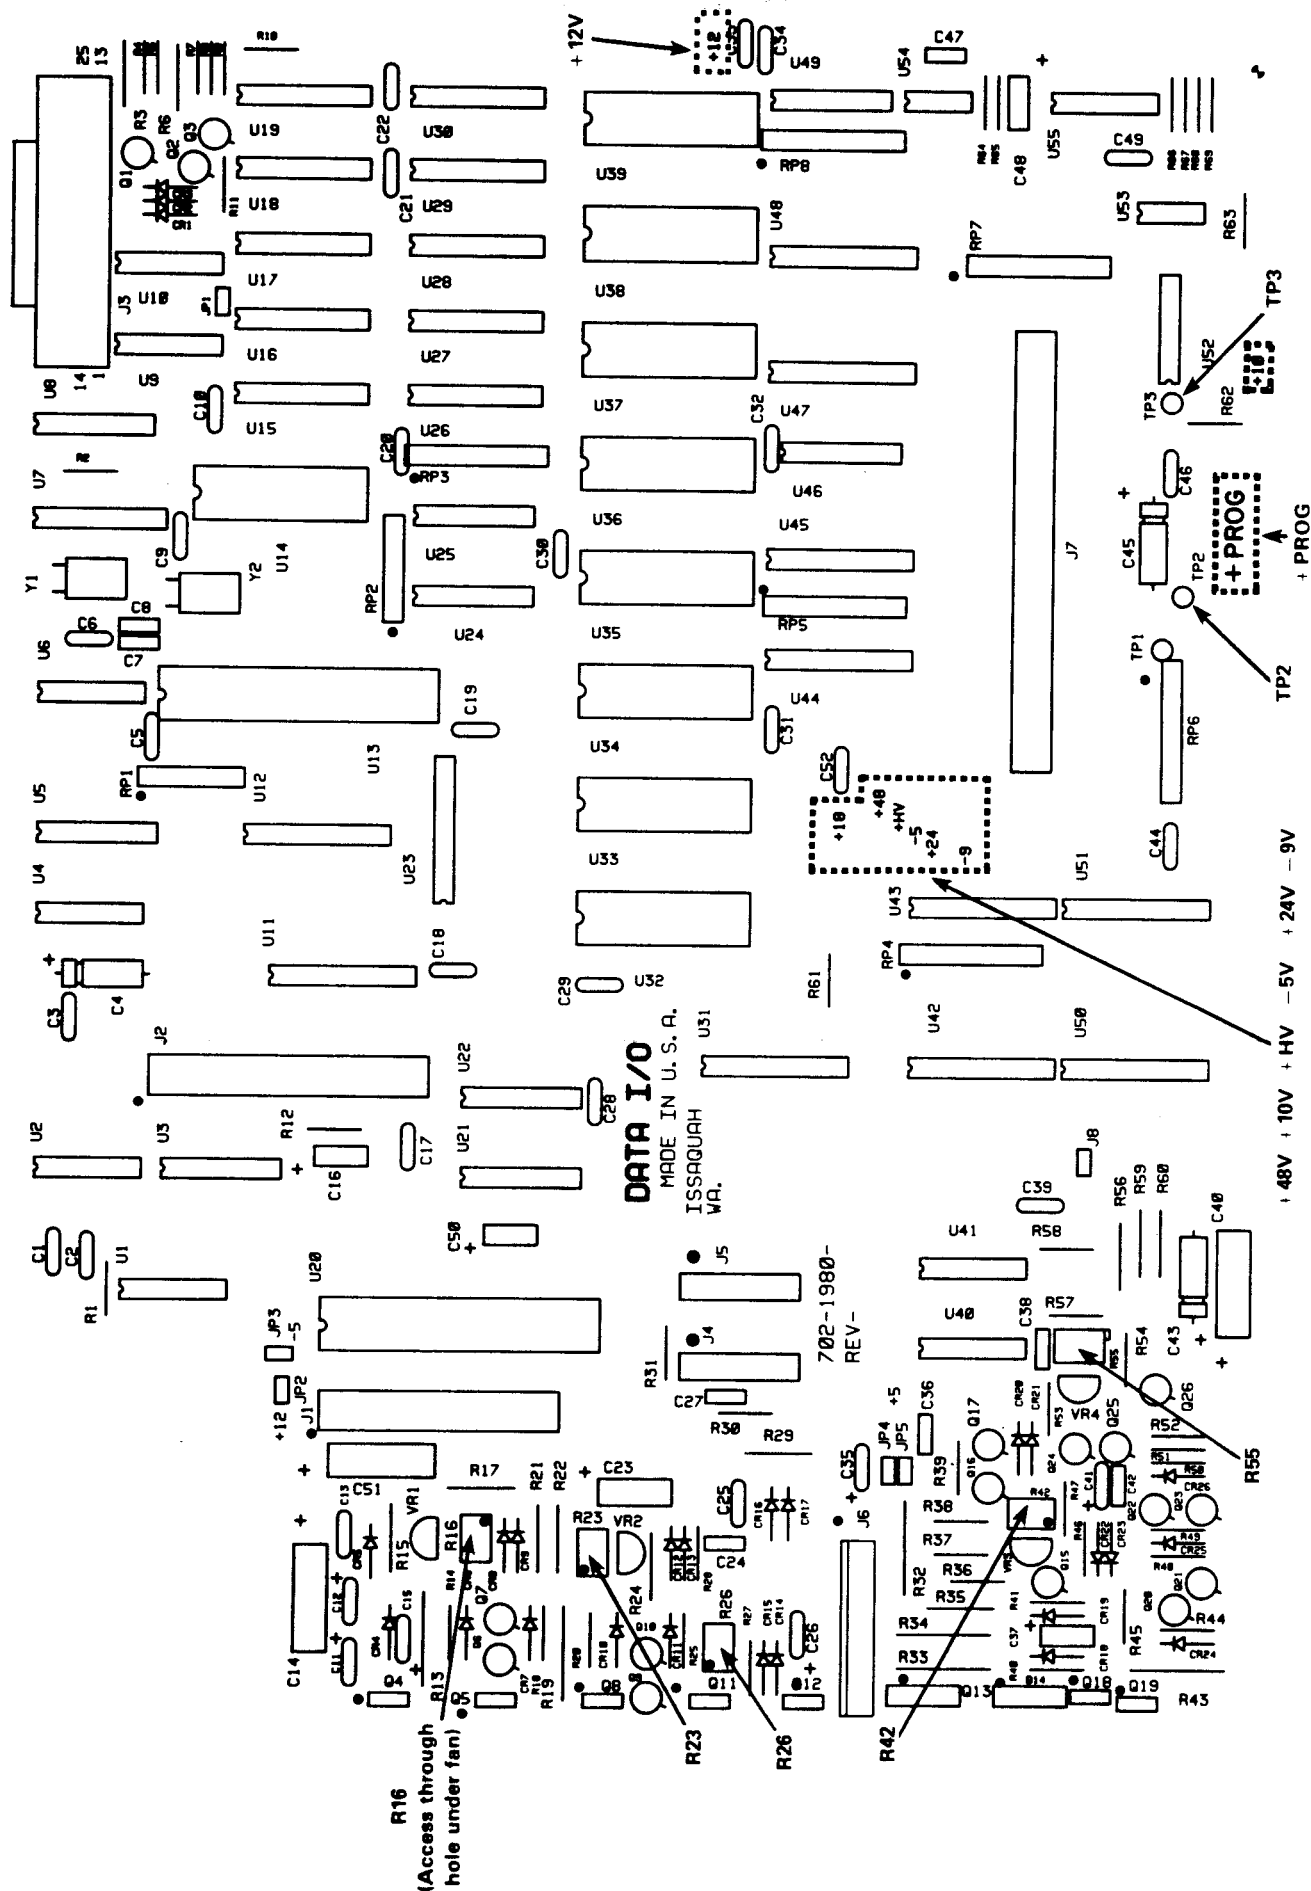

Figure 4-2. Power Supply Test and Adjustment Points
The following procedures describe calibration set-up. Test points are shown in Figure 4-2.
4. Measure the supplies at the test points shown in Figure 4-2. Results should be within the ranges listed in Table 4-1.
If all voltages are within the specified range, no adjustment will be necessary. If the voltages fall outside the range, adjust them as follows. Adjustment points are shown in Figure 4-2.
6. Adjust the supplies as necessary, using the potentiometers cited in Table 4-1. Figure 4-2 shows their locations. If any supply can't be adjusted within the ranges of Table 4-1, refer to Section 6, Troubleshooting.